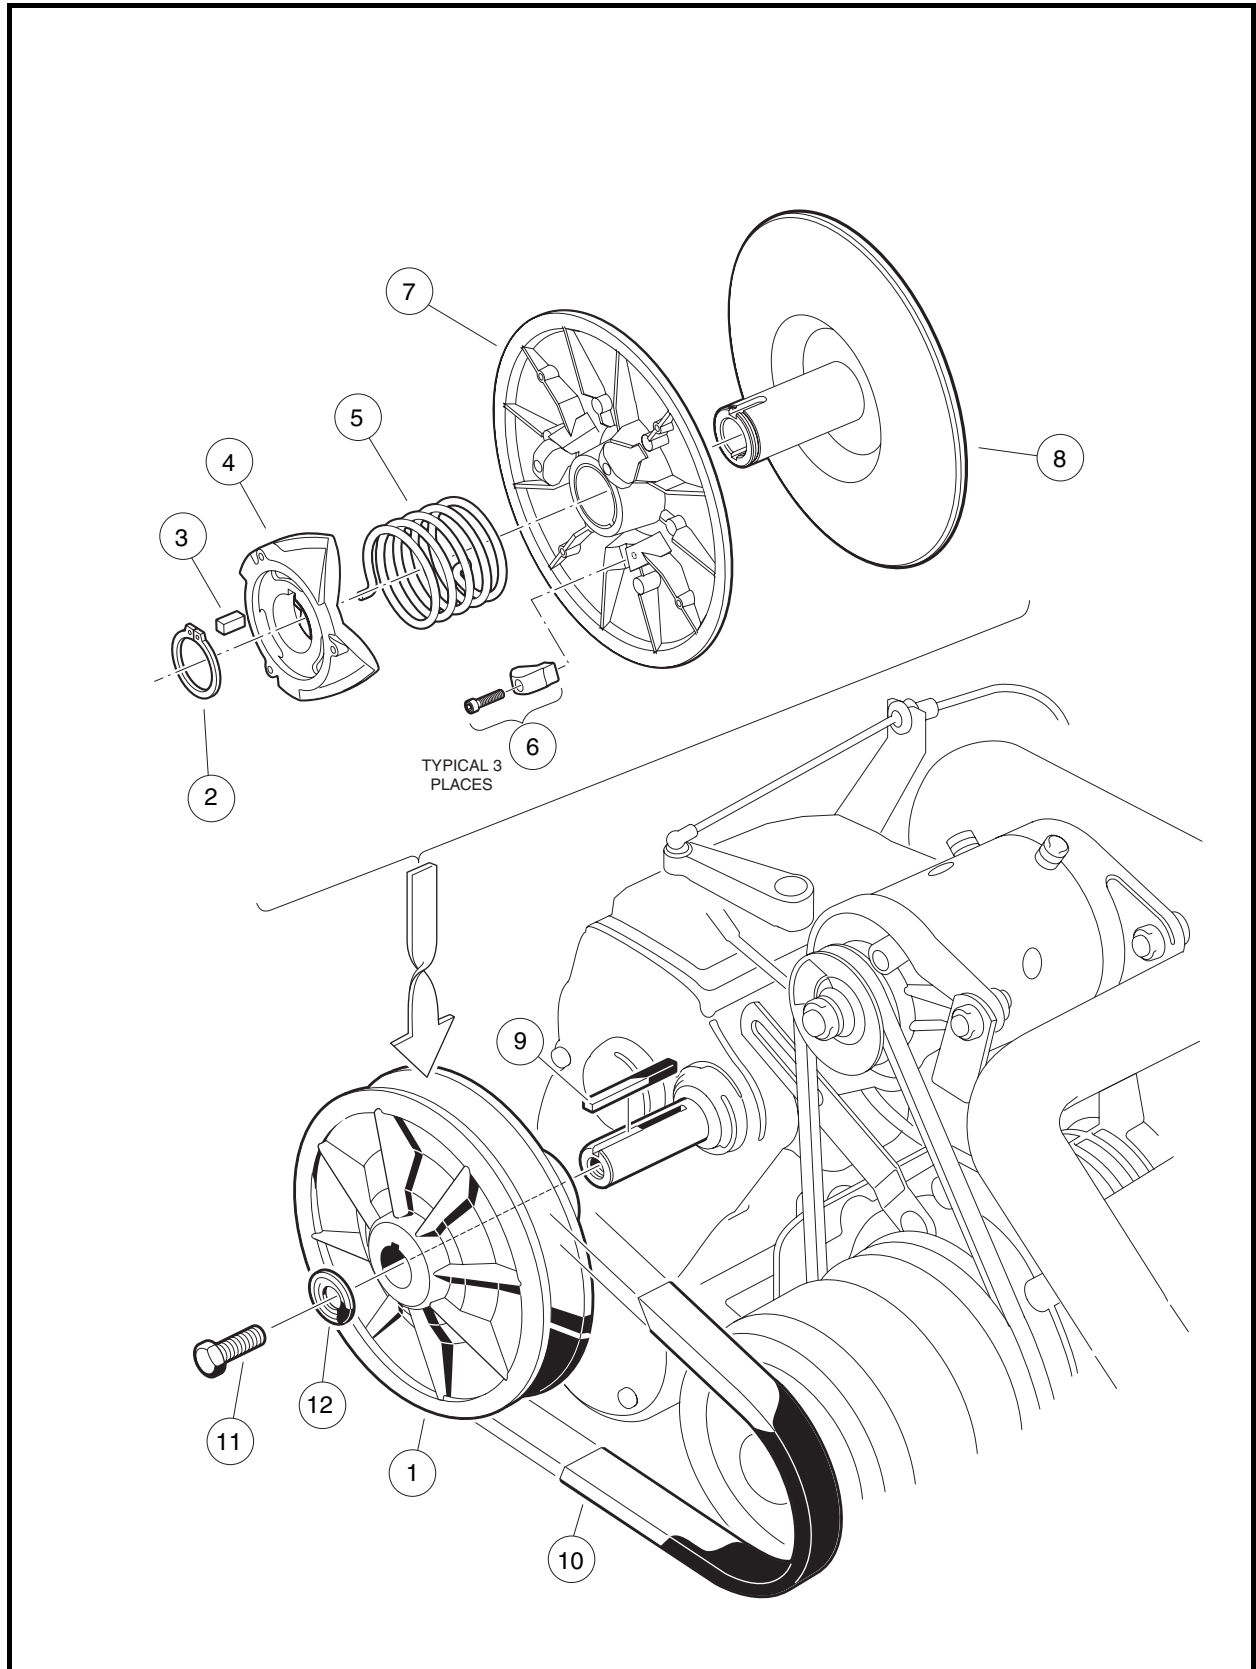
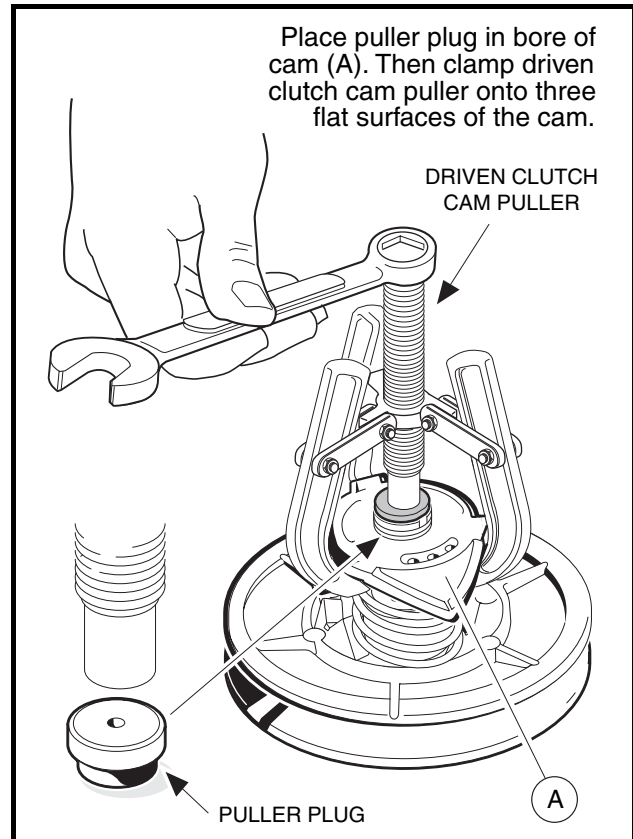

Figure 17-16 Driven Clutch Assembly
Figure 17-18 Driven Clutch Disassembly
5. Remove the bolt (11) and mounting washer (12) from the clutch shaft (**Figure 17-16, Page 17-14**).
7. Leave the key (9) in the keyway (**Figure 17-16, Page 17-14**).
2. Insert a puller plug (CCI P/N 1014507) (**Figure 17-18, Page 17-15**) into the shaft bore and use a driven clutch cam puller (CCI P/N 1014508) to remove the cam (4) from the fixed face shaft (8). Retain the key (3) (**Figure 17-16, Page 17-14**).
3. Remove the spring (5) (**Figure 17-16, Page 17-14**).
4. Slide the moveable face (7) off the fixed face shaft (8) (**Figure 17-16, Page 17-14**).
1. Inspect the cam (4) for excessive wear. Replace it if necessary (**Figure 17-16, Page 17-14**).
2. Inspect the drive buttons (6) for excessive wear. Replace if necessary. To remove the drive buttons, remove the socket-head cap screws and then the buttons.
1. Place the three drive buttons (6) in position. Apply one drop of Loctite[®] 222 to each of the socket head cap screws and then install and tighten them to 8 in-lb (0.9 N·m) (**Figure 17-16, Page 17-14**).
2. Slide the moveable face assembly (7) onto the fixed face shaft (8).
3. Place the end of the spring (5) into hole in the moveable face assembly.
4. Install the key (3) into the keyway of the fixed face assembly (8) shaft.
5. Holding the cam (4) in position for assembly on the shaft, install the other end of the spring (5) into the center spring hole of the cam. Rotate the cam until the keyway is aligned with the key (3) on the fixed face assembly, and then start the cam onto the shaft approximately 1/4 to 3/8-inch (6.3 to 9.5-mm).
- 5.1.3. Install the retaining ring (2) (Figure 17-16, Page 17-14). See following NOTE.
1. To install the driven clutch, reverse the removal procedure. Make sure that the washer (12) is mounted with the flat portion of the washer against the driven clutch as shown (**Figure 17-16, Page 17-14**). Secure with a *new* bolt (11). **See following NOTE.**